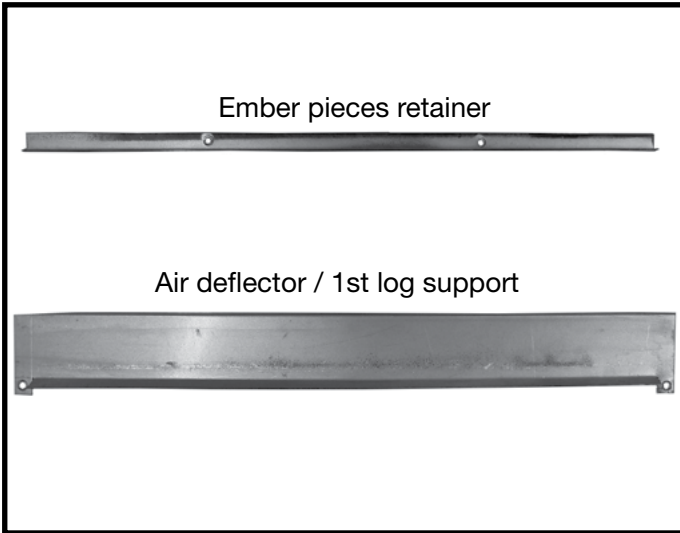
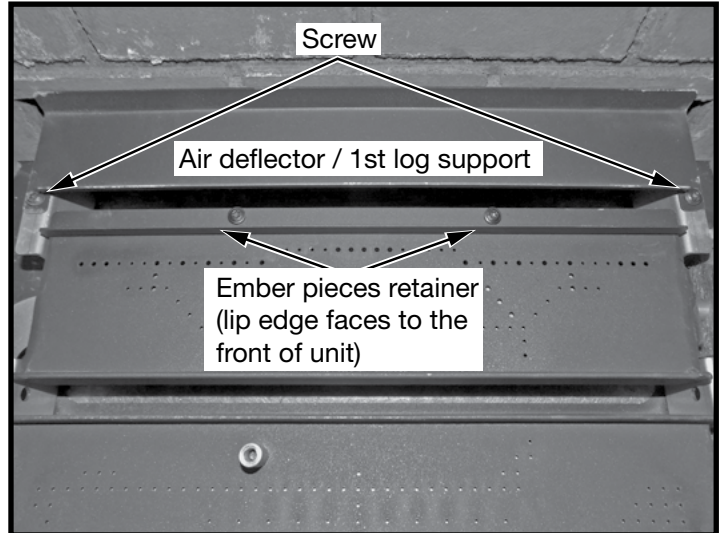

Figure 86: Ember pieces retainer and air deflector-1st log support.
Figure 87: Gap between air deflector and burner.
1. Begin by placing the air deflector / 1st log support (Figure 86) behind the rear burner and up against the rear wall (Figure 87). Position so that the lip faces toward the front of the fireplace. Fasten the deflector down with supplied screws. Once the deflector is secured, there should be a gap of approximately 1/2 inch between the deflector and the rear burner. This gap is required for air flow. Also secure the Ember pieces Retainer (Figure 86) along the back of the rear burner. This will help to keep the ember pieces from spilling over from the burner and down into the air gap.